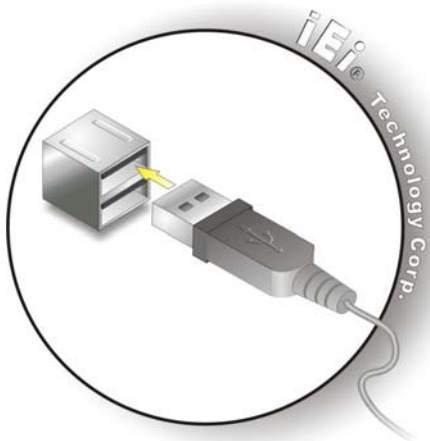

Figure 2-29: USB Device Connection
Step 2: Align the connectors. Align the USB device connector with one of the connectors on the bottom panel. See **Figure 2-29**.